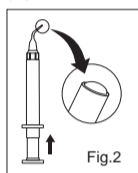

Fig.2
2. Any possible air from the dispensing tip is removed by gently pushing forward the syringe plunger with the tip pointing upwards until material reaches the opening of the tip (Fig. 2).